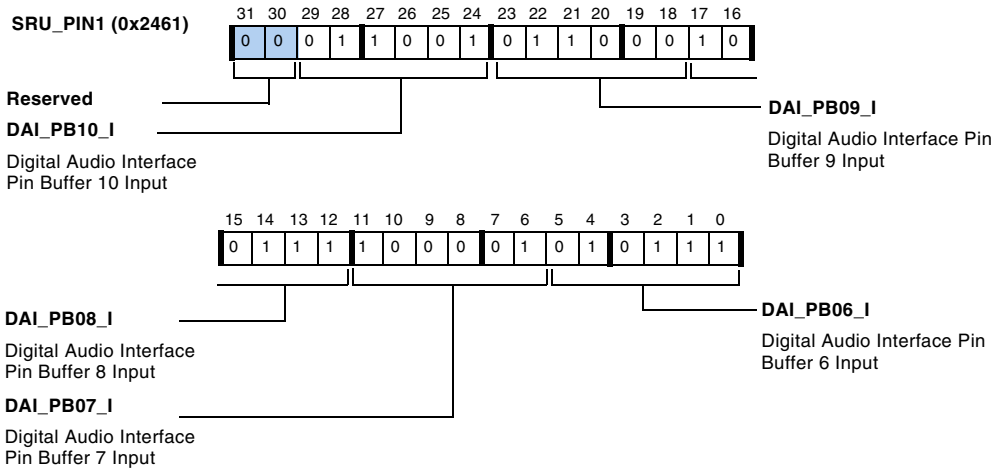

Figure A-47. SRU\_PIN1 Register
- SRU\_PIN1, described in Figure A-47